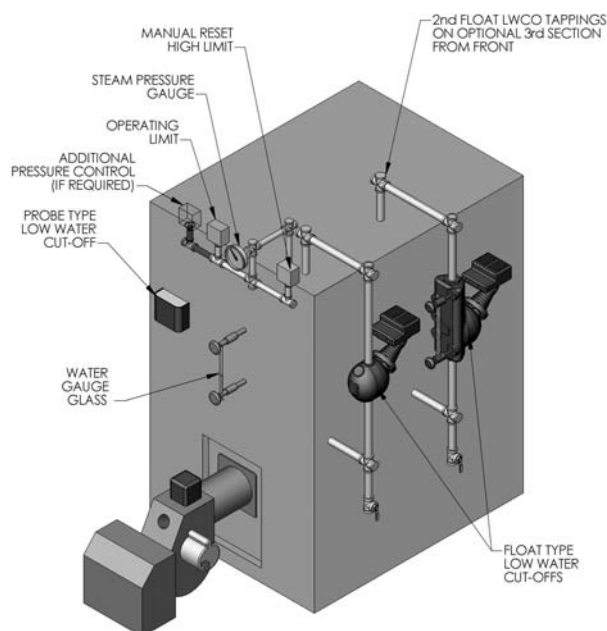
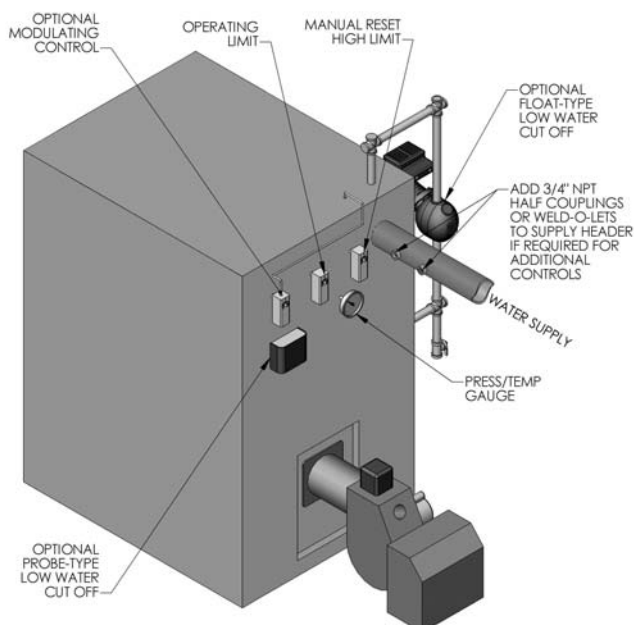

Figure 3.17: Steam Boiler Control Locations
Figure 3.18: Water Boiler Control Locations
- Figure 3.17 shows a typical control configuration for a steam boiler and Figure 3.18 shows a typical control configuration for a water boiler.
- When using multiple Float-type Low Water Cutoffs, always pipe them as shown in Figure 3.17. Do not mount these devices on opposite ends of the boiler. This will cause erratic operation and nuisance shut downs of the boiler.
- a) Steam Boilers: See Figure 3.17 for typical control locations for steam boilers. Additional limit and firing rate controls can be added to the 3/4" NPT piped header.
- b) Water Boilers: See Figure 3.18 for typical control locations for water boilers. Additional limit and firing rate controls can be added to the boiler supply piping.